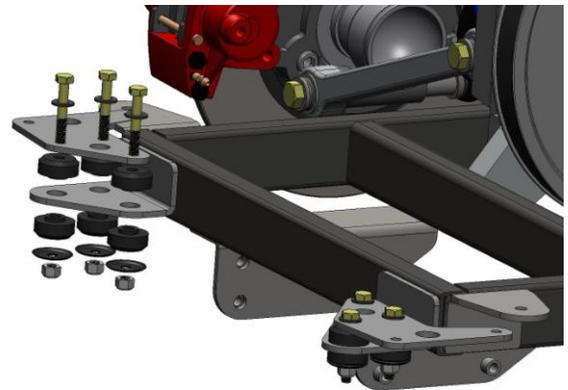

**Figure 23**
- Connect OEM brake line from rear master cylinder to Brake Pressure Residual Valve using 10mm single banjo bolt and two crush washers. Torque down to 17 to 19 ft. lbs. See **Figure 23**